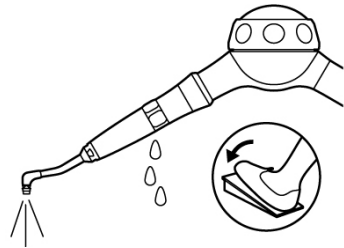

Fig. 36
- After filling the powder chamber, spray powder and water into a spittoon, etc., and confirm that powder and water has not leaked from connections other than the nozzle tip connection (Fig. 36).